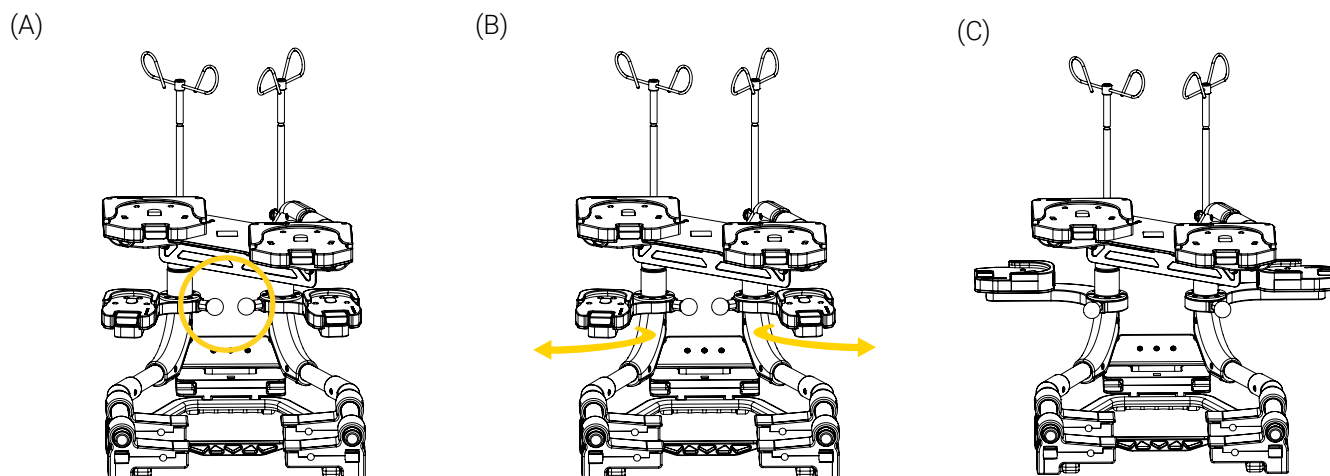

Figure 16: Extending the swivel micro shelves
1. Pull and hold the quick release knob of the swivel micro shelf (Figure 16 A), push the shelf on patient left clockwise and/or the shelf on patient right counterclockwise (Figure 16 B), then release the button (Figure 16 C).